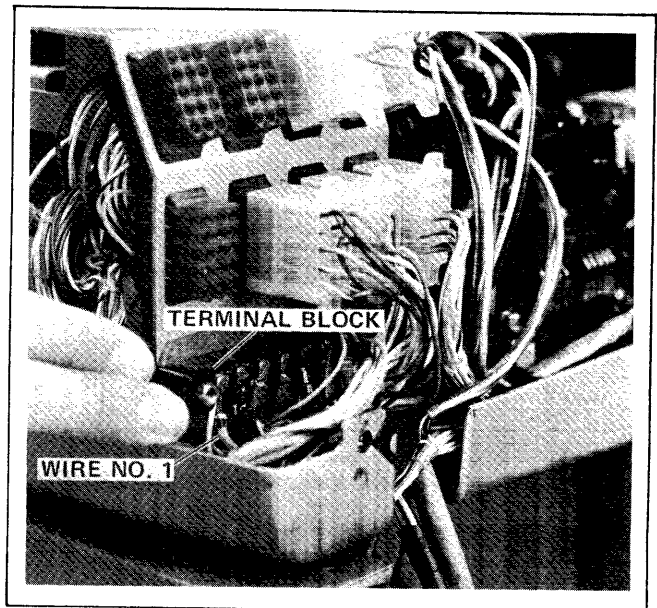

Figure 5-6. Terminal Block
(2) A full duplex hook-up must be created internally. This is accomplished by moving two wires on a terminal strip (see Figures 5-6 and 5-9).
(3) The receiver current level must be changed from 60 mA to 20 mA. This is accomplished by moving a single wire (see Figures 5-6 and 5-9).